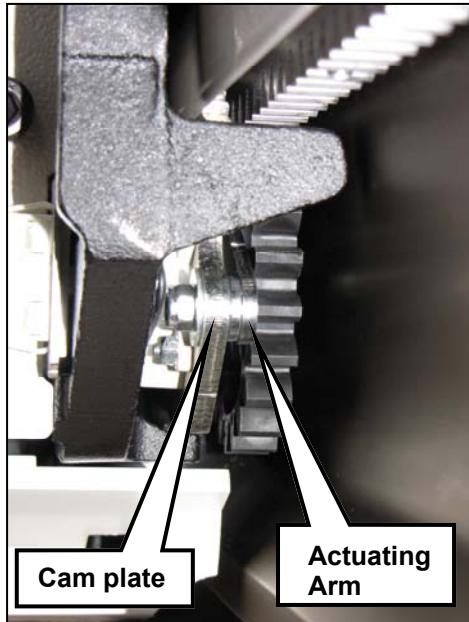

Figure 1
- To reset the OSG, hand-wind the stairlift upwards, using a $\frac{1}{4}$ inch drive socket on the motor hand winding shaft until the OSG cam plate can be seen to spring back into its travel position Fig 1.